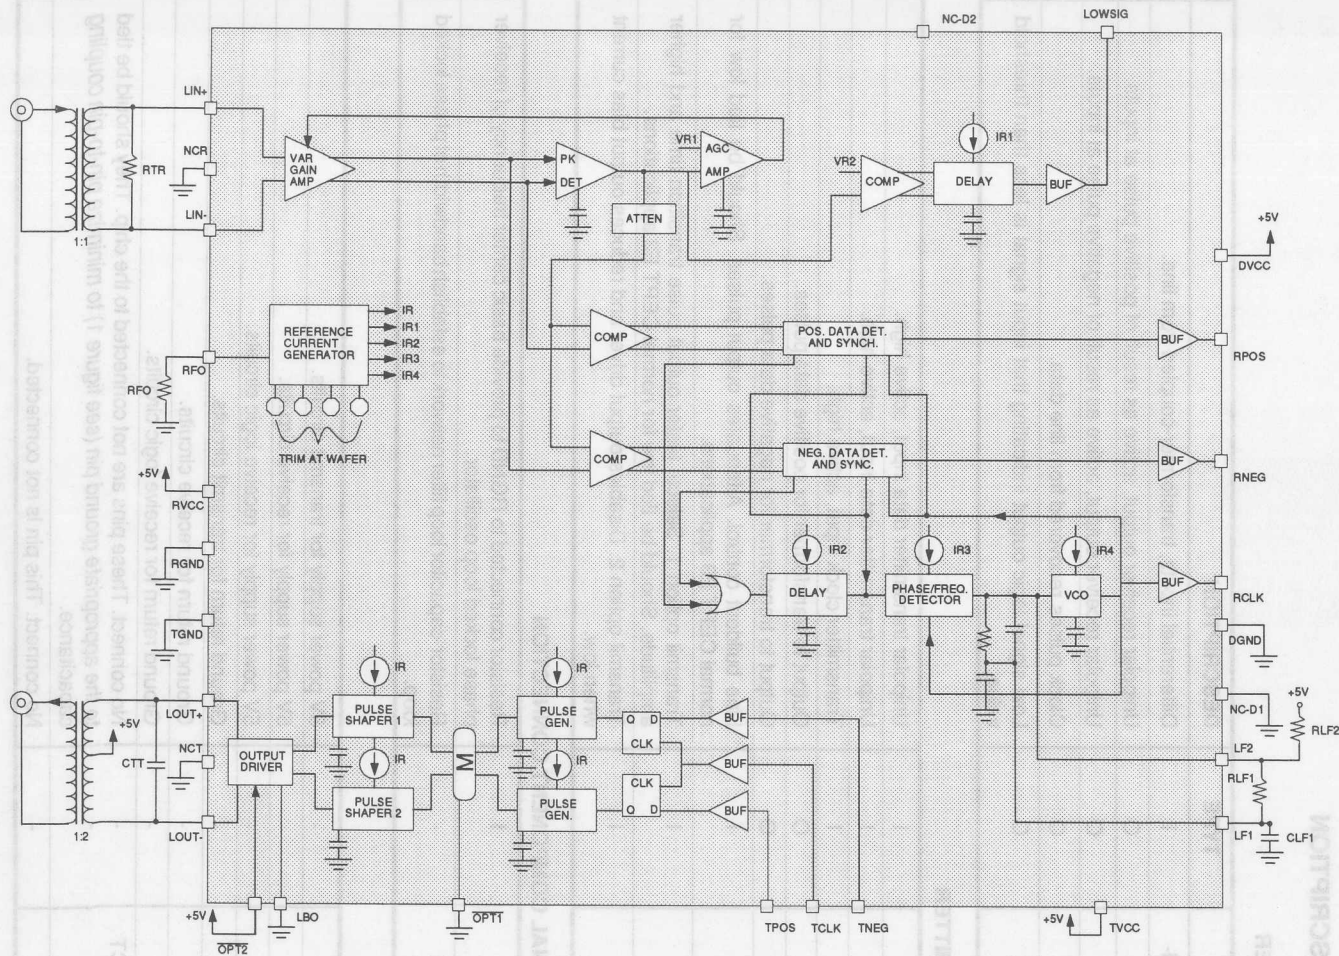

FIGURE 1: Functional Diagram
| NCR, NCT NCD1 | - | No connect. These pins are not connected to the chip. They should be tied to the appropriate ground pin (see figure 1) to minimize pin-to-pin coupling capacitance. |
EXTERNAL COMPONENTS (Refer to Figure 1 for location of components.)
1. The input signal is transformer coupled as shown in Figure 1.
3. The circuit is connected as in Figure 1.